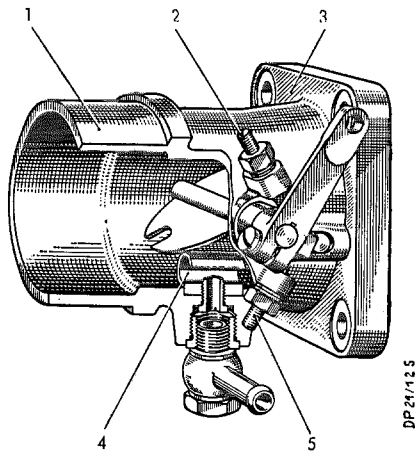

Fig. 07-8/5
The variations of vacuum present in the injection pump governor during idling and the resulting oscillation of the diaphragm and the control rod can cause an irregular idling of the engine. To limit these movements of the diaphragm the stop screw (6) must be adjusted as specified for the respective injection pump (see Test Sheet, Section C, Paragraph 9) (Fig. 07-8/6).
While the engine is in operation a checking and/or correcting of the adjustment of the adjusting screw (6) can be conducted as follows (see Fig. 07-8/6 and 07-8/7).